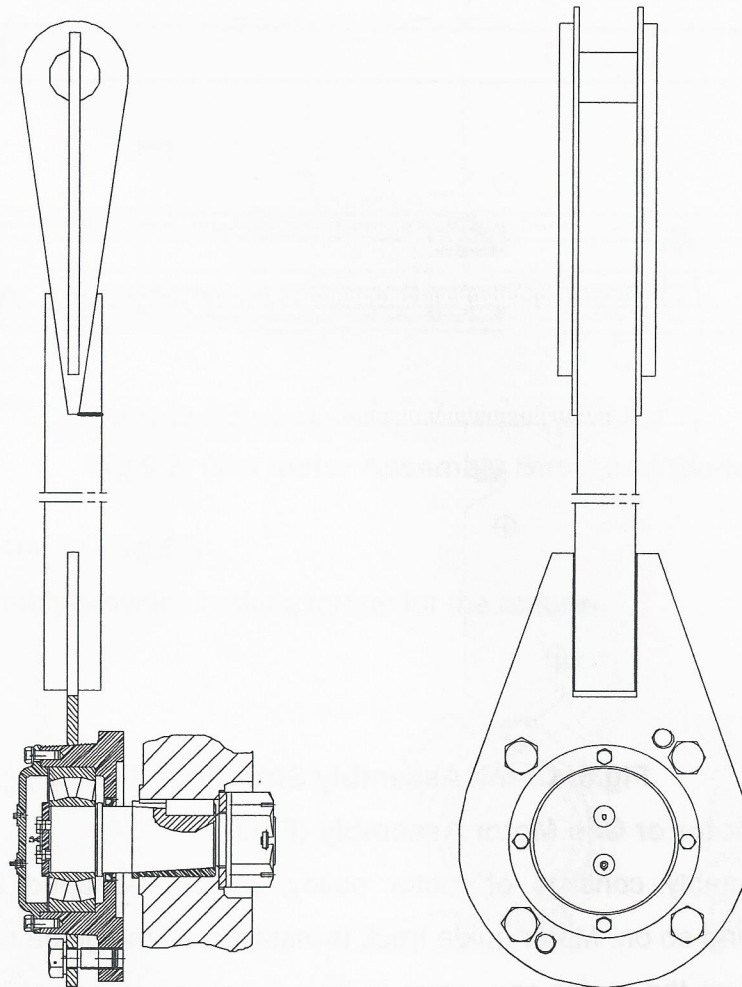

Fig.7: Pitman Assembly Structural Sketch
3.2.4 Pitman Assembly (Fig.7)
Pitman assembly consists of pitman, crank pin, crank pin bearing base, taper bush, bearing, left & right crank pin and so on. The upper end of pitman is connected to equalizer with pitman pin and the lower to the crank with crank pins. The big end of crank pin is milled to be quadrate to prevent the crank pin from rotating and the nuts from loosening. The crank pin thread has two kinds: left-hand thread and right-hand thread, which is respectively equipped with the left-hand crank pin and right-hand crank pin. See Fig.7: